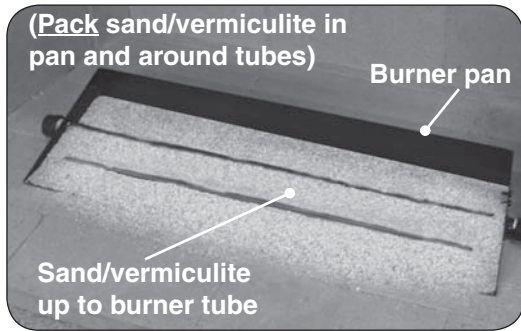
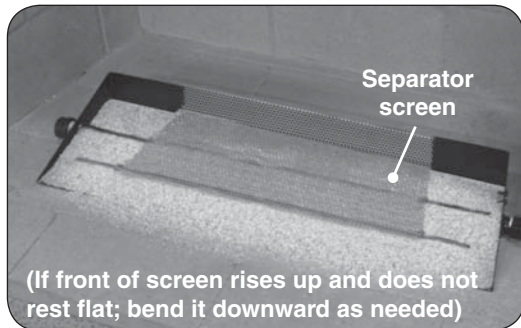
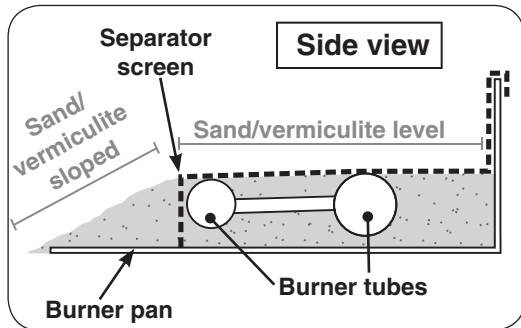

Fig. 17-1
Fig. 17-2
Fig. 17-3
1. Pour the sand/vermiculite into the pan until they just cover the burner tubes. Then pack the sand/vermiculite in the pan and around the burner tubes. Add additional sand/vermiculite as needed to end with the sand/vermiculite **level** with the top of the burner tubes. Slope the sand/vermiculite in the front portion of the pan. See Fig. 17-1 and Fig. 17-3.
2. Place the separator screen over the sand/vermiculite such that the rear of the screen hooks over the top and back of the burner pan, as shown in Fig. 17-2 and Fig. 17-3. If the front of the screen rises up from the floor of the pan, bend it downward as needed.